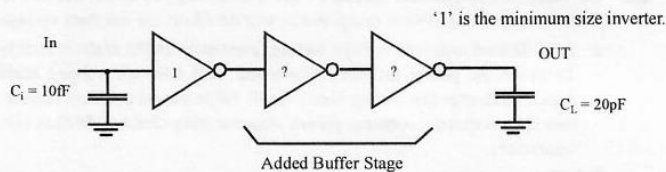

Figure 5.12 Buffer insertion for driving large loads.
- a. In order to drive a large capacitance ($C_L = 20 \text{ pF}$) from a minimum size gate (with input capacitance $C_i = 10 \text{ fF}$), you decide to introduce a two-staged buffer as shown in Figure 5.12. Assume that the propagation delay of a minimum size inverter is 70 ps . Also assume that the input capacitance of a gate is proportional to its size. Determine the sizing of the two additional buffer stages that will minimize the propagation delay.